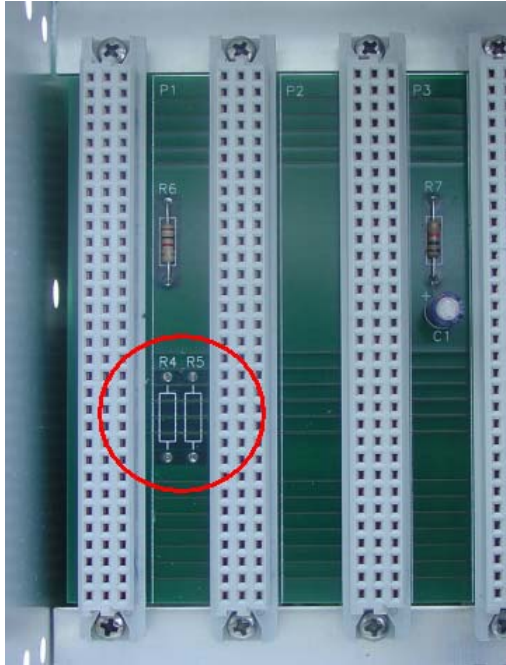
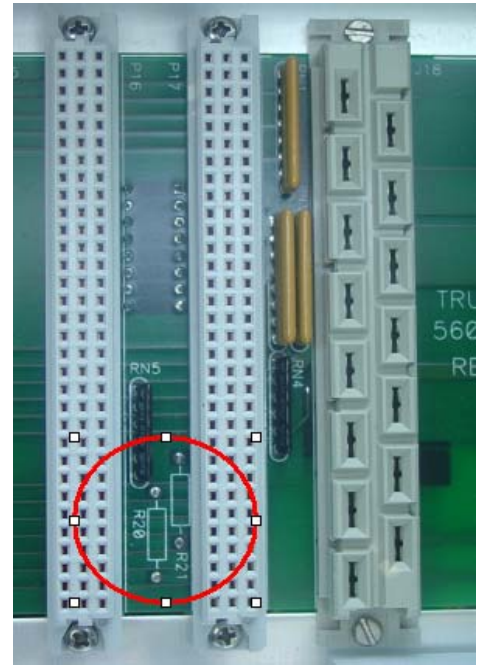

Figure 1: R4 and R5 (removed)
Figure 2: R20 and R21 (removed)
3. Check the revision letter of the 56000 backplane, 560-5165 (partially visible in the center-right portion of Figure 2):
4. From the front of the unit, locate resistors R4 and R5 (Figure 1) located in the lower left area of the backplane.
5. Grasp the resistor firmly with a tool, such as a pair of stout tweezers or needle nose pliers, and rock the tool until the resistor leads fatigue and break – OR – use end nippers to cut the leads and then remove the resistor. Perform this step on resistors R4, R5, R20, and R21 in sequence. See Figure 1 and Figure 2.